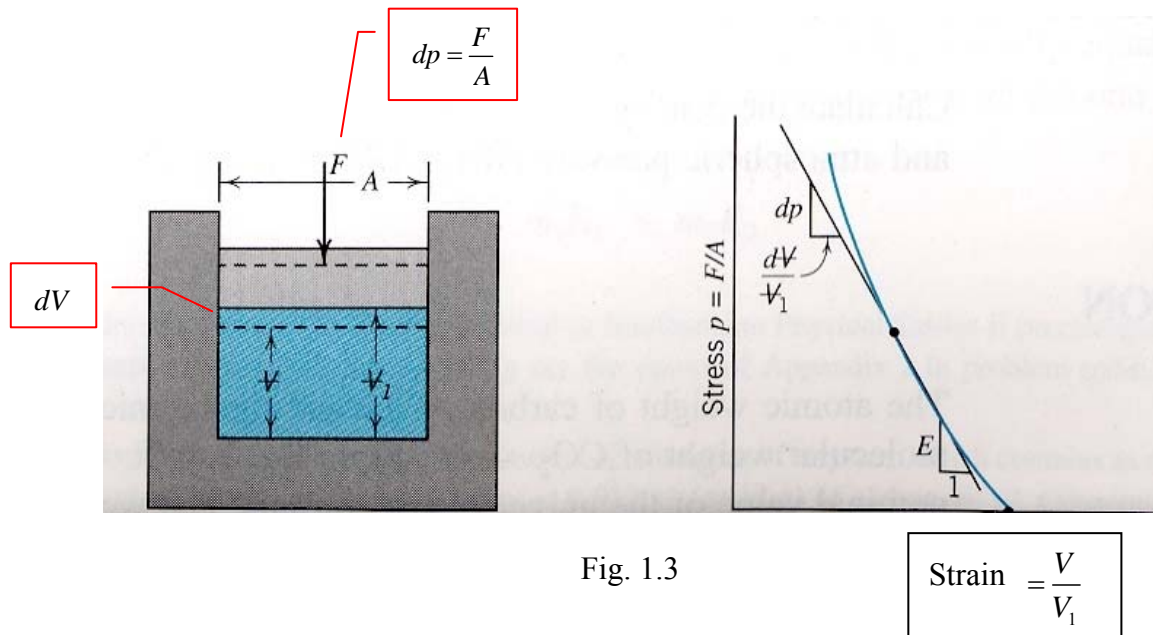

Fig. 1.3
- Stress strain curve ($E \uparrow$, difficult to compress) \rightarrow Fig. 1.3 (see Table 1-1)